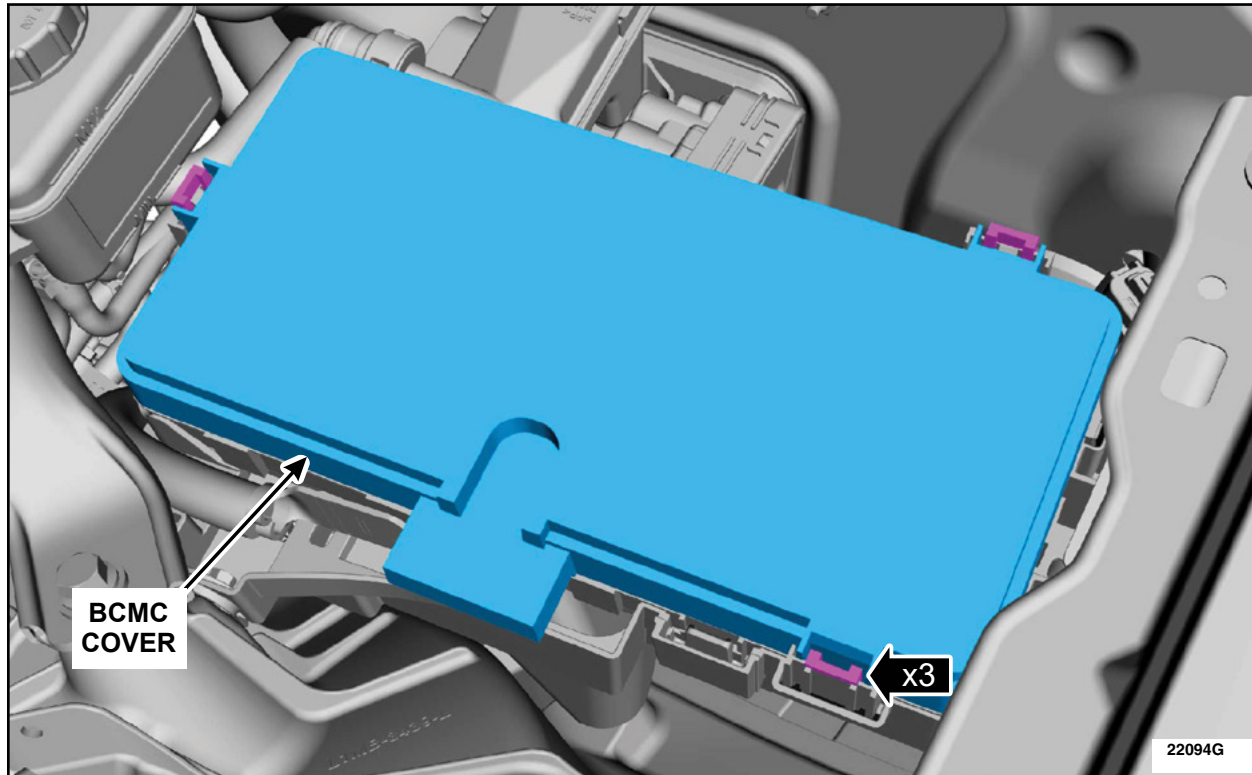

**FIGURE 22**
28. Tighten the three BCMC connector bolts. See Figure 22.
29. Position back the cable and install the nut. See Figure 22.